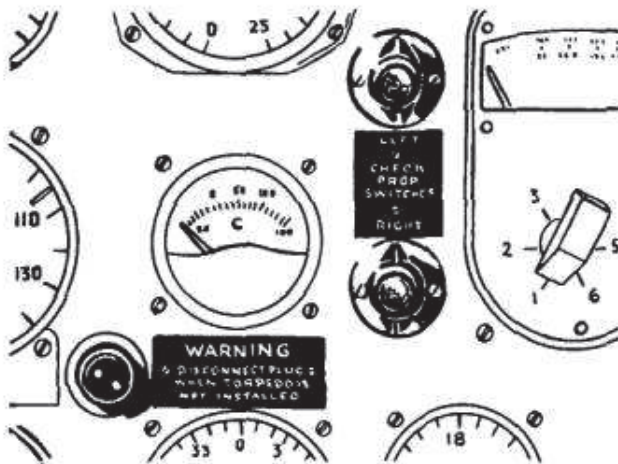

Figure 68 — Propeller Signal Lights
b. The propeller overload signal lights glow red if a propeller is left in fixed pitch, if a circuit breaker cuts out or if the propellers increase or decrease 30 rpm from the governor setting. (See figure 68.)